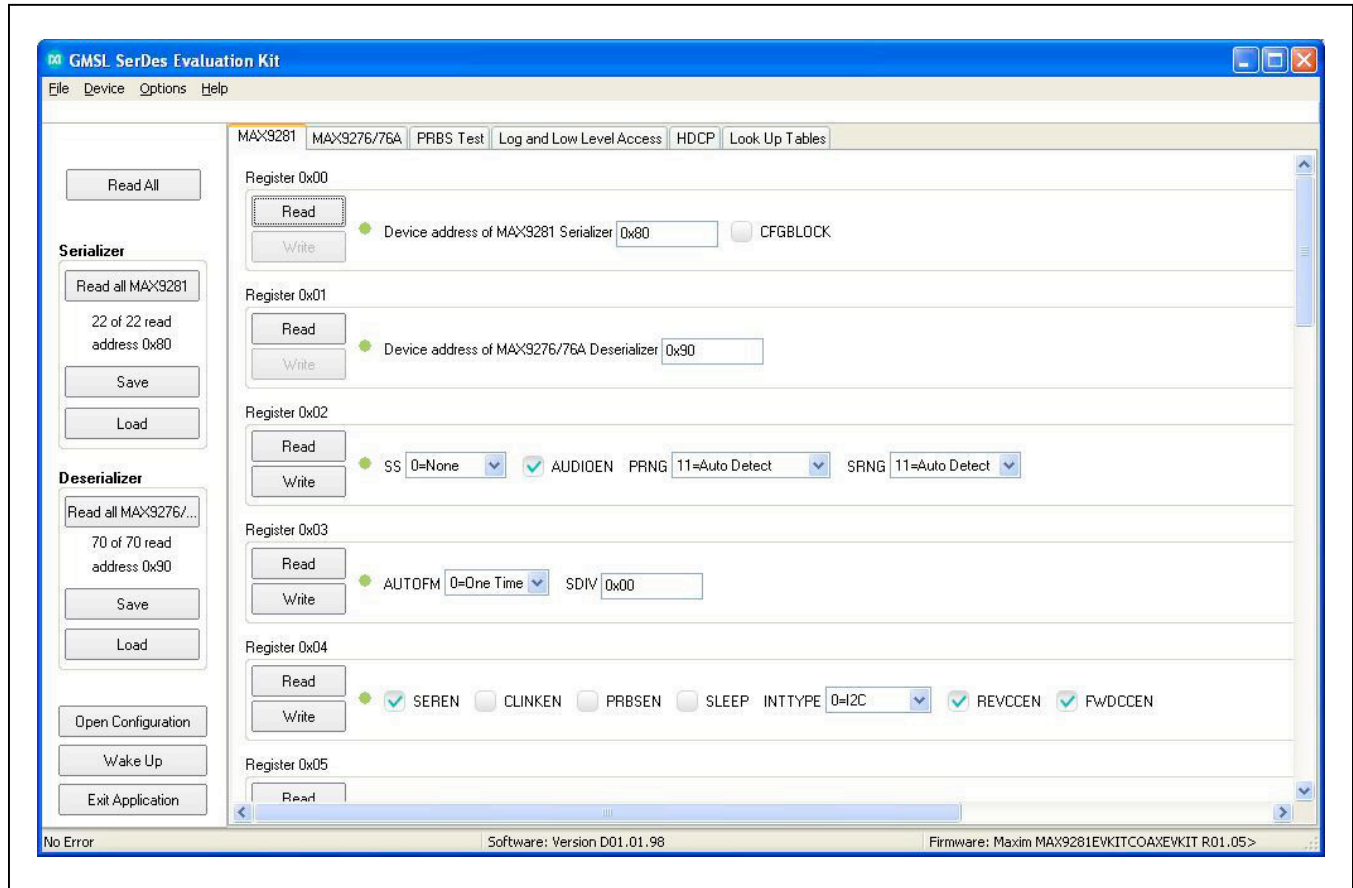

Figure 2. MAXSerDesEV-D Evaluation Kit Software (MAX9281 Tab (Serializer))
- 17) Press the **Connect** button to launch the **Evaluation Kit** window and show the serializer register map (Figure 2). The GUI will read all the internal registers of the SerDes and update the corresponding tabs.
The **Evaluation Kit** window shown in Figure 2 provides access to all internal functions of the DUTs by means of reading and writing registers through different tabs, enabling the user to evaluate various functions of the SerDes.
The **MAX9281** tab (Figure 2) lists the serializer's registers bitmaps. The **Read** and **Write** buttons in each register group box allow read/write access for each bit or group of bits that specify a function or condition, as defined in